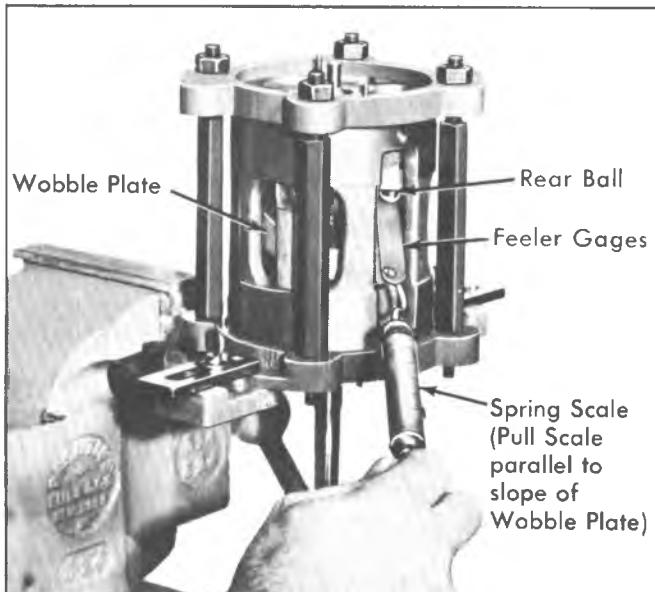

Fig. 23-Checking Clearance Between Rear Ball and Wobble Plate
- Use a leaf type feeler gauge and a suitable spring scale to check clearance between the REAR ball and the wobble plate (fig. 23) of the No. 1 piston. Use a suitable combination of feeler gauge leaves until 4 to 8 oz. of force is required to pull gauge from between the ball and the plate.